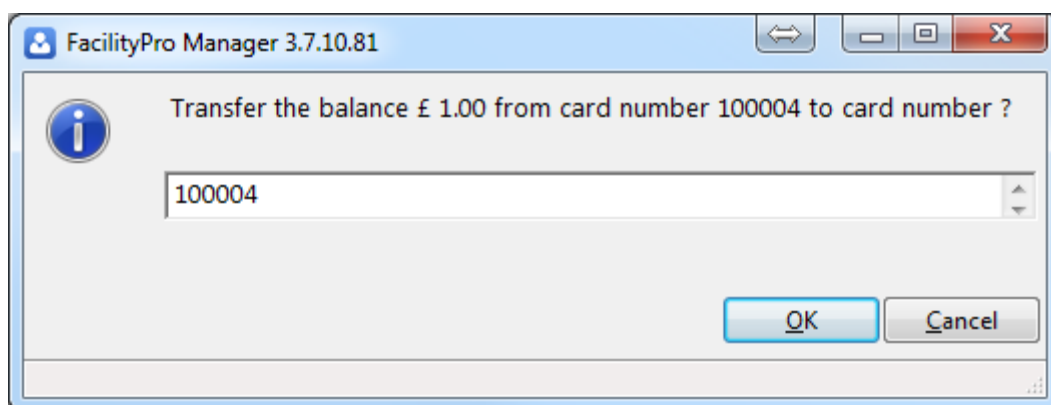

Figure 3-35 Balance transfer
4. Click **Balance transfer**. You will see a message as in Figure 3-35.